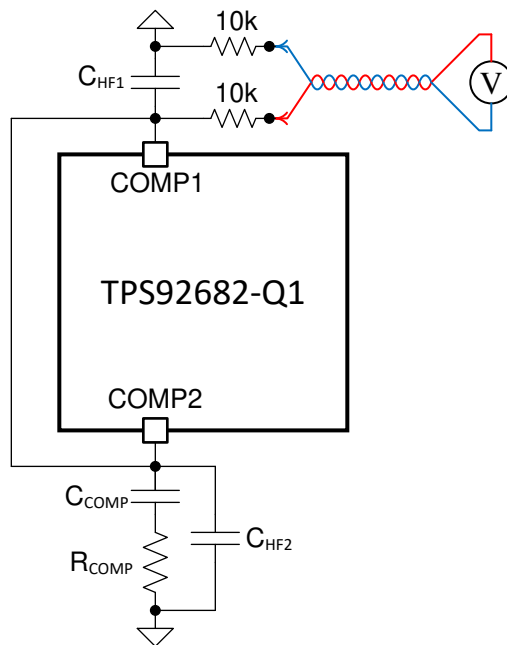

图 7-13. Current Sharing Calibration Setup
- Set CH2GOFF = 1 and CH1GOFF = 0 in Table 7-40. This setting turns off channel-2. Measure the COMP voltage as shown in Figure 7-13 and record the measurement as V_{COMP1} .